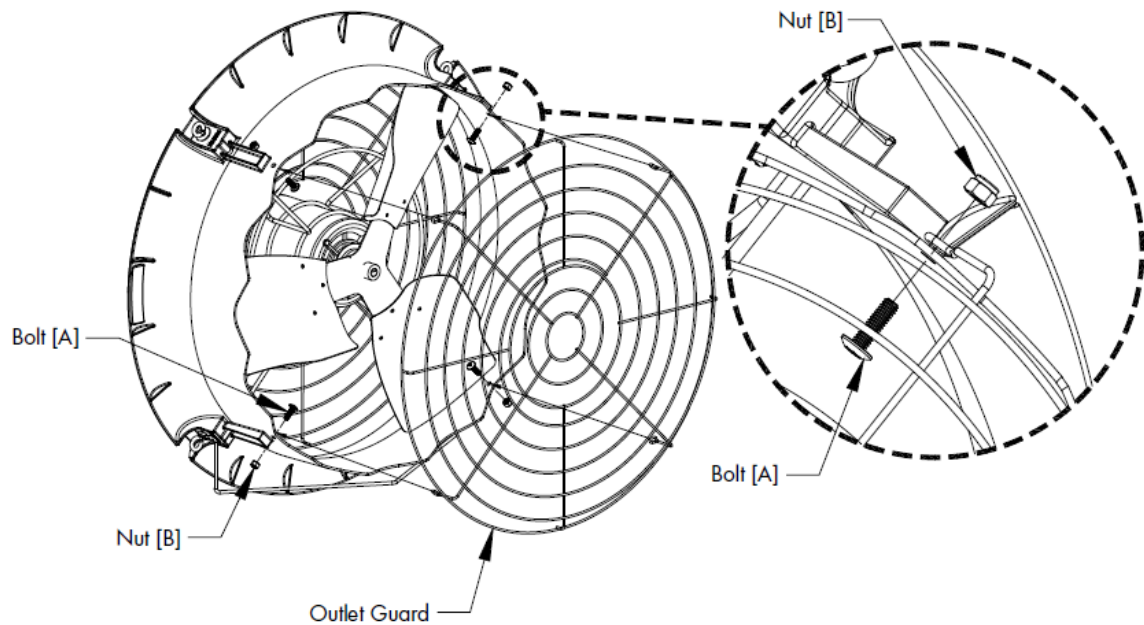

Figure 4
Step 4: The Outlet Guard is the one with the small inner hole. With the eyelets on the guard pointing toward the fan, align the eyelets with the holes in orifice on the outside of the fan using (4) Bolts [A] and Nuts [B]. The head of the bolt goes on the inside of the orifice and the nut goes on the outside. See Figure 4.